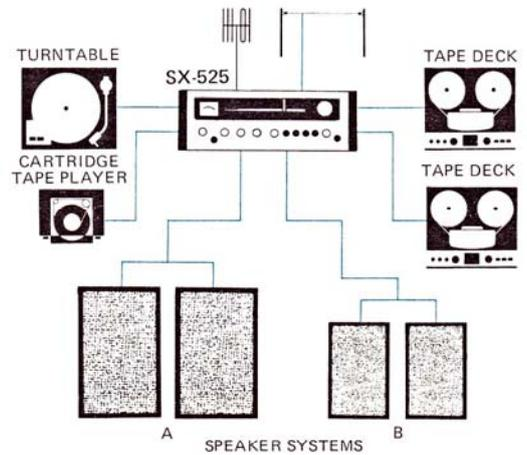

Fig. 2
- Model SX-525 is a Stereo Receiver, i.e. it combines an AM/FM stereo tuner, a preamplifier and a power amplifier in one unit. To obtain a complete stereo system, it can be combined with 2 or 4 speakers, 1 turntable, 1 or 2 tape decks, etc. See Fig. 2.